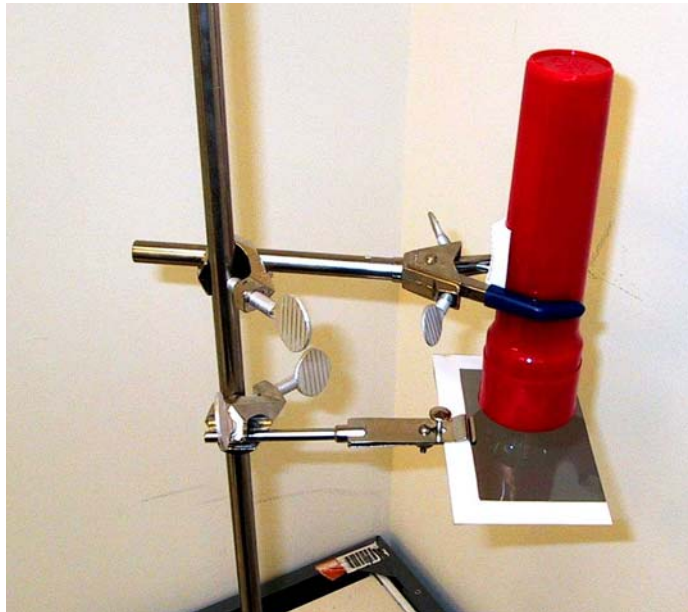

FIGURE 5 – FLASHLIGHT WITH FILTER
- 6) Be sure that the clamp for holding the filters is in place (see Figure 5) but with no filter.